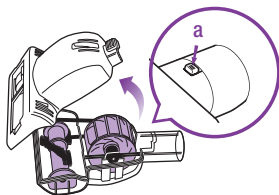

Fig. 26
- 1 Slide the locking latch (a) forward and tilt the bottom cover upward to remove. (Fig. 26)